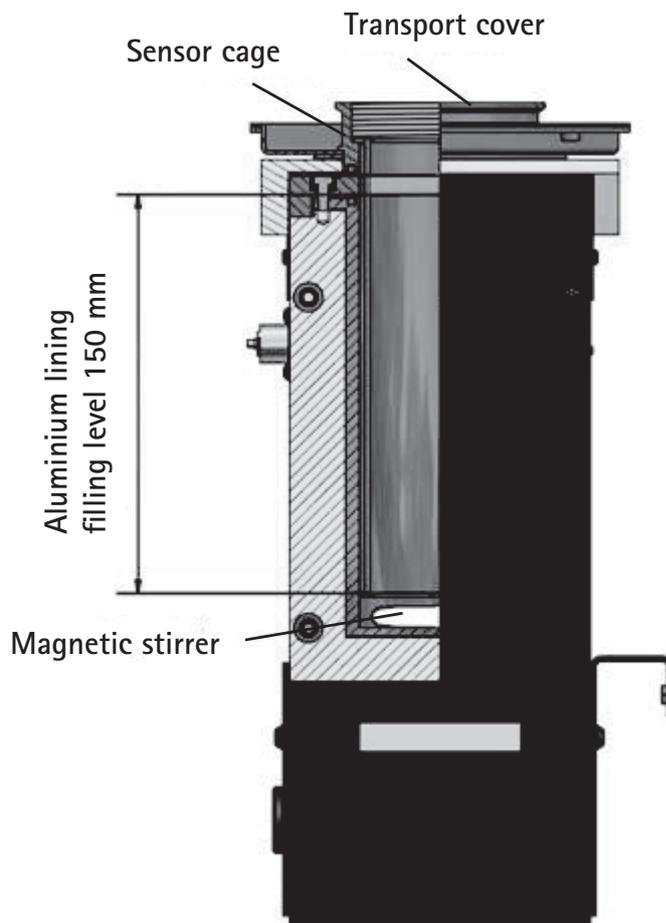

Fig. 4: Max. filling level of the liquid bath
- ⇒ Fill the tank with calibration liquid. The max. filling level in the tank is displayed by the upper edge of the aluminium lining (see Fig. 4). The max. filling level is 0.5 litres.